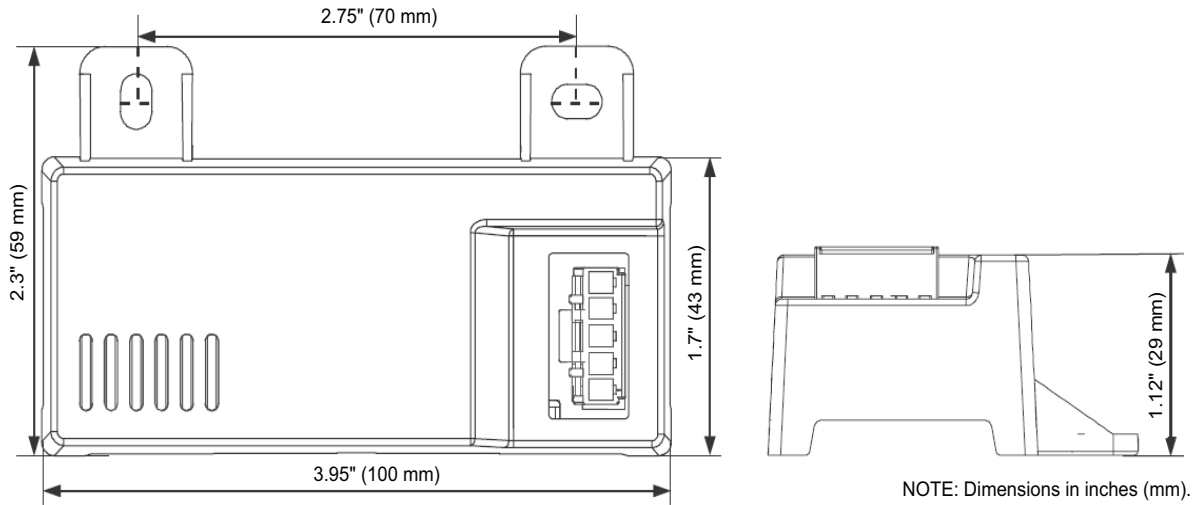
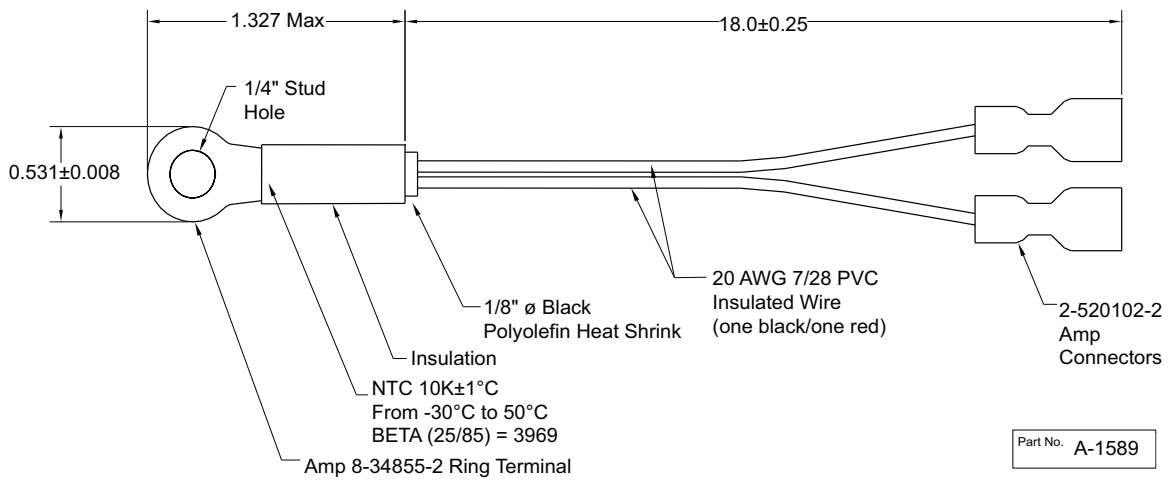
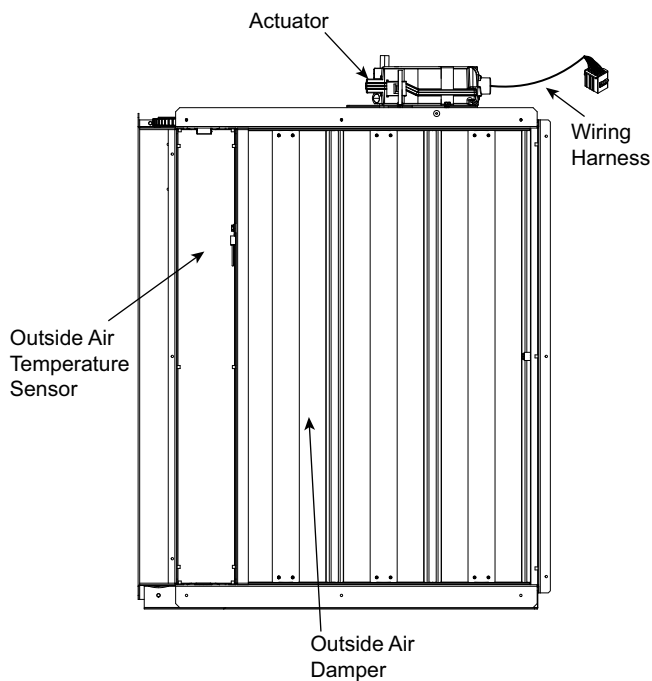

Fig. 94 – HH57LW001 Dimensional, Connection and Switching Information
Fig. 95 – HH79NZ039 Dry Bulb and Mixed Air Sensor Wiring
Fig. 96 – EconomizerONE Component Locations (CRECOMZR108A00 Shown)
When using the HH57LW001 enthalpy sensor (see Fig. 94) for outside air changeover, the existing HH79NZ039 dry bulb sensor (see Fig. 95) must be removed. The enthalpy sensor will be mounted in the same location as the dry bulb sensor (see Fig. 96). When the enthalpy sensor's OA (Outside Air) temperature, enthalpy, and dew point are below their respective setpoints, the outside air can be used for free cooling. When any of these are above the setpoint, free cooling will not be available. Enthalpy setpoints are configurable and create an enthalpy boundary according to the user's input. For additional details, see Fig. 97-98 and Table 33.
The optional enthalpy control sensor (P/N: HH57LW001) communicates with the POL224 economizer controller using the 5-wire harness, 48TC005213. The HH57LW001 sensor can be used as a single outside air enthalpy, a differential return enthalpy, or a differential return temperature sensor. Refer to the base unit control wiring diagrams found earlier in this book to wire the HH57LW001 enthalpy sensor for each option. Use Fig. 94 and Table 35 on page 75 to locate the wiring terminals for each enthalpy control sensor.
Economizers are shipped standard with an HH79NZ039 outside air dry bulb sensor (see Fig. 95). System default setting (high temp limit) is 63°F (17°C) and has a range of 48°F to 80°F (9°C to 27°C). Sensor is factory installed on economizer.
If installing the optional HH57LW001 enthalpy sensor, the HH79NZ039 dry bulb outside air sensor must first be removed. Wire sensor to harness 48TC005213 and the (5) wires from the harness to the EconomizerONE harness in the return air chamber. Harness 48TC005213 has a 5-pin plug that connects directly to the HH57LW001 enthalpy sensor. Refer to the base unit control wiring diagrams earlier in this book for wiring connections. Refer to Fig. 94 and Table 35.